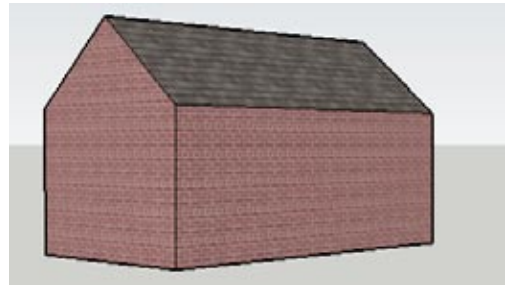

Figure 8-26
1. Download my Edit Textures model from the 3D Warehouse (Figure 8-26).